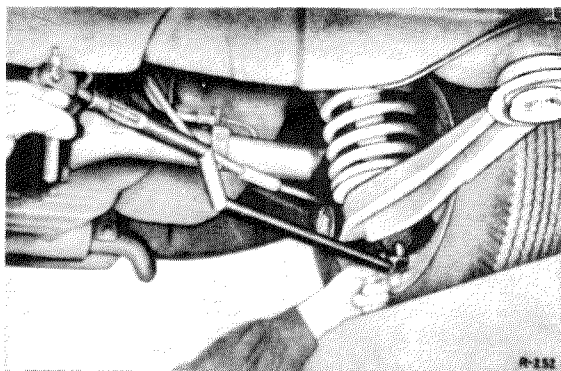

Fig. 35—1/13
41. After the road test use Master Gage 180 589 08 23 to check the position of the rear axle, measuring from the check bore in the chassis base (Fig. 35—1/13). The measurement at the left and the right must be the same. Correct any deviations by adjusting the cross strut. (For further details on the adjustment of the rear axle see Job No. 40—3).